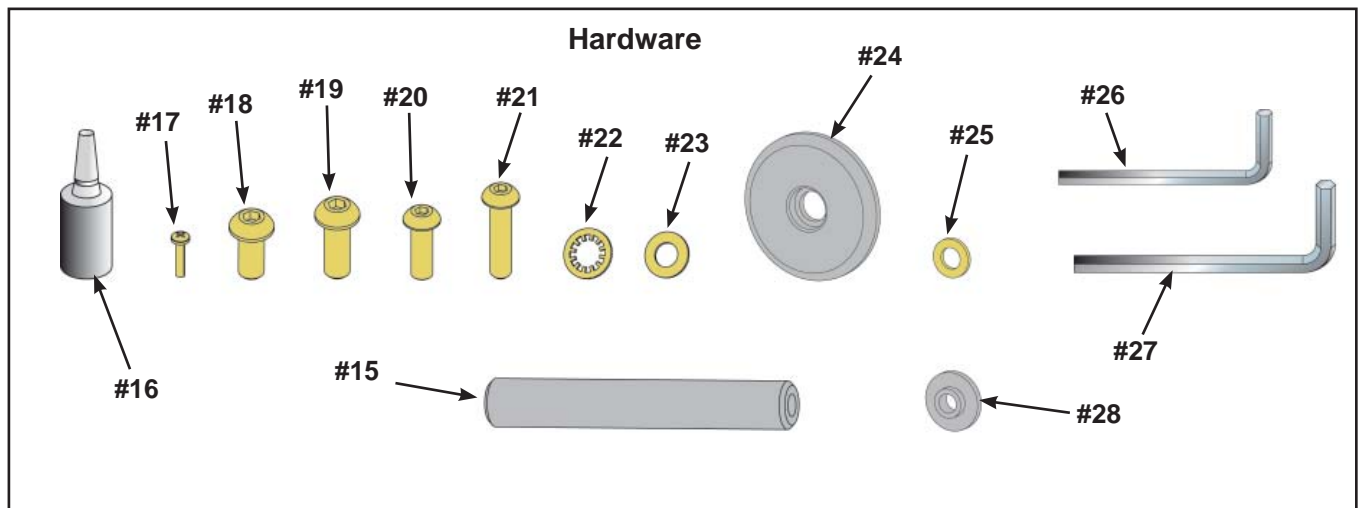

Figure 2
E. Check off (☑) each item in the hardware pack as you find it. See Figure 2 and 3.